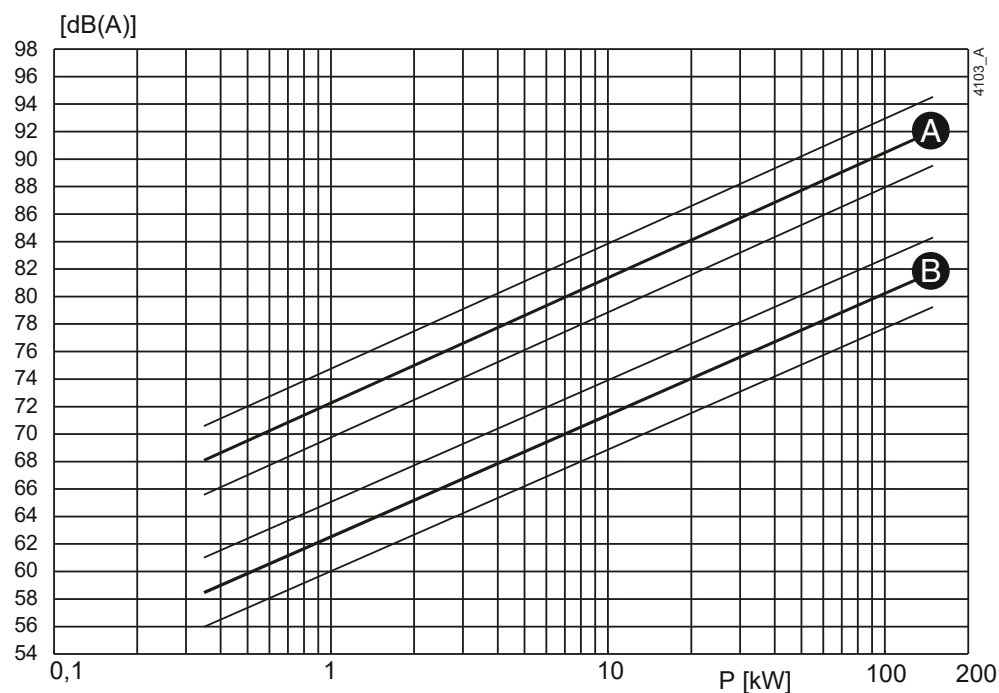
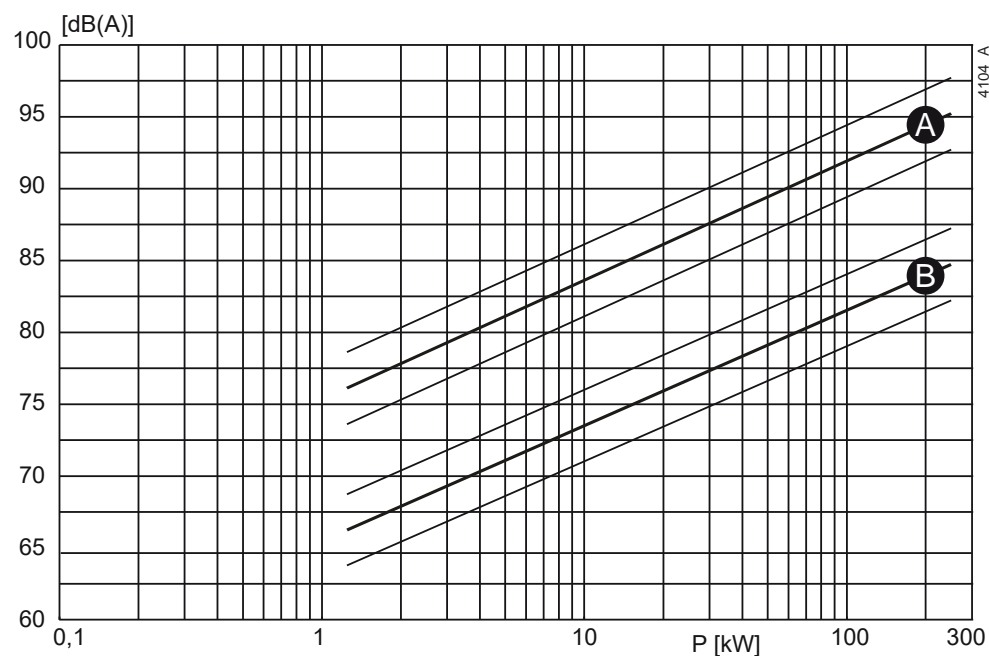

Figure 110: Noise level as function of pump power [kW] at 1450 min^{-1}
Figure 111: Noise level as function of pump power [kW] at 2900 min^{-1}
- 1 Determine the noise level (L1) of the pump, see figure 110 or figure 111.